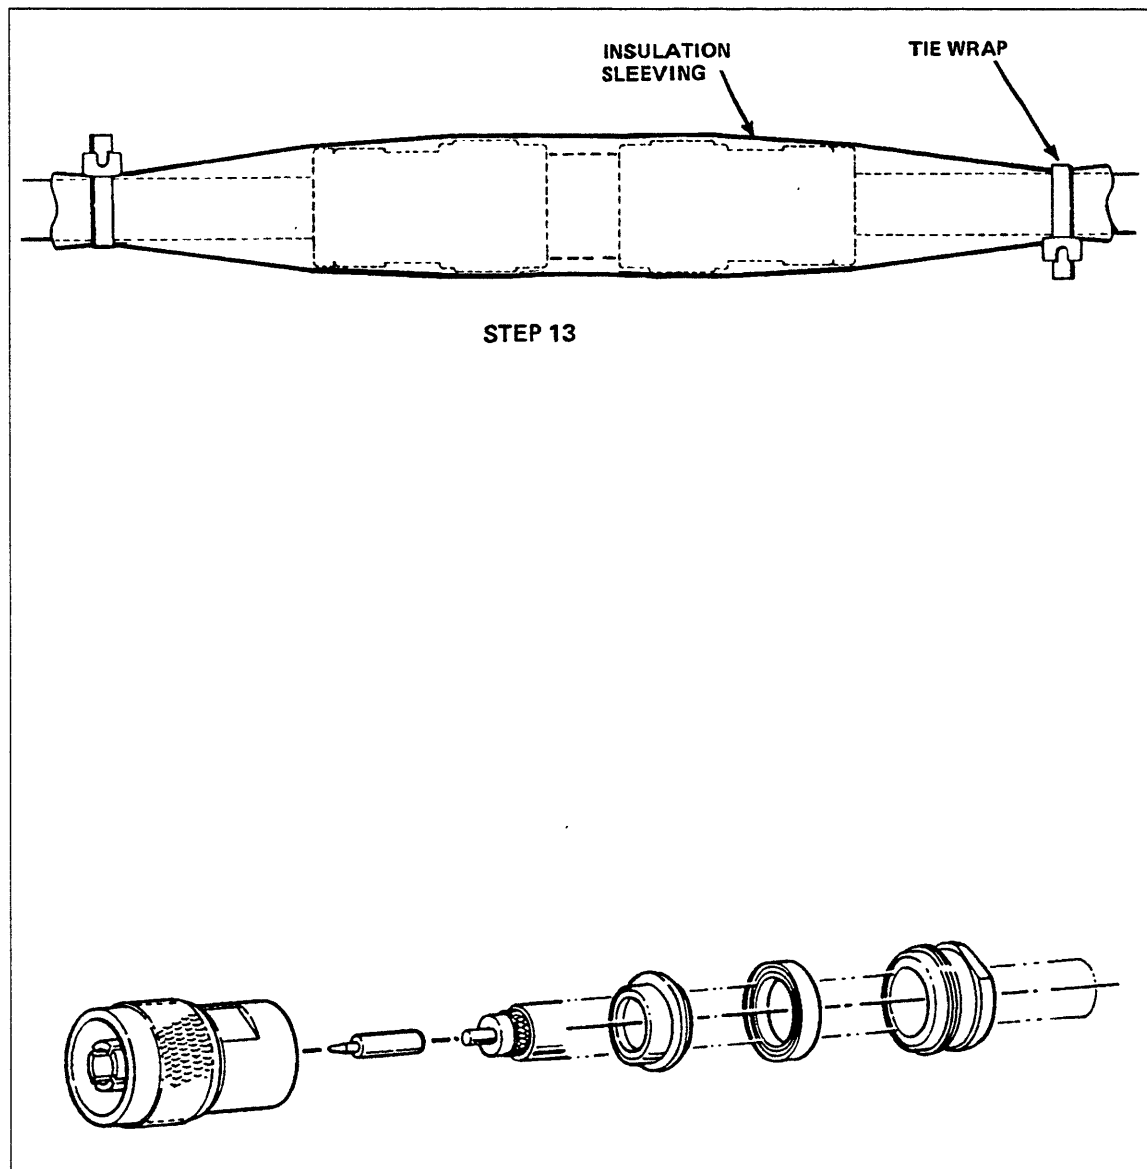

Figure 2-3. Installing a Solder-Type N-Connector Part 2
13. Slide insulation sleeving over connectors so that all metallic parts are covered. Secure with tie-wraps (figure 2-3).
4. Push insulation sleeving over the three connectors, covering all metallic parts. Secure with tie-wraps (figure 2-3).